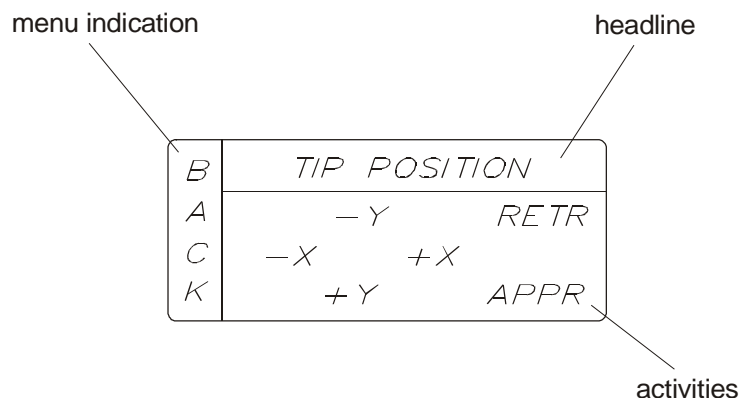

Figure 45. Operating menu display structure. VT STM/SPM version shown as example.
All operating menus have a similar display structure, see figure 45.
- The main field shows the functions of the numbered F-buttons  $\pm F1$ ,  $\pm F2$  and  $\pm F3$ . In the example shown in figure 45 pressing the +F3 button retracts the tip away from the surface.